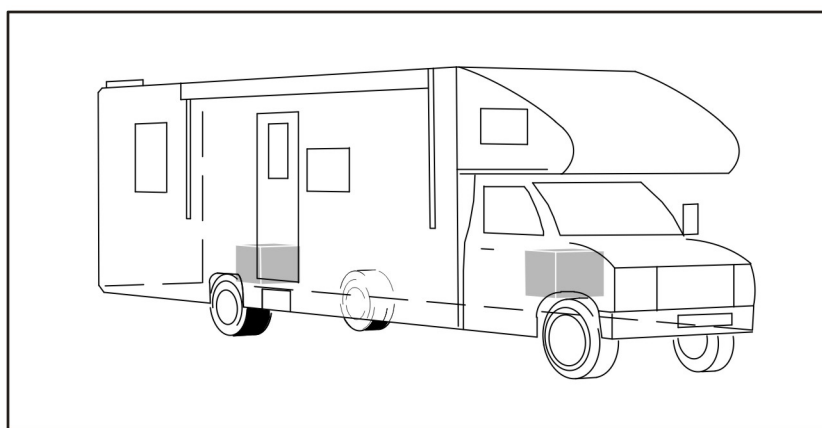

FIGURE 2. TYPICAL GENERATOR SET LOCATIONS - CLASS C RV
- Access for removing the two fuel pump mounting screws so that the generator set does not have to be removed to replace the fuel pump. See Figure 2.